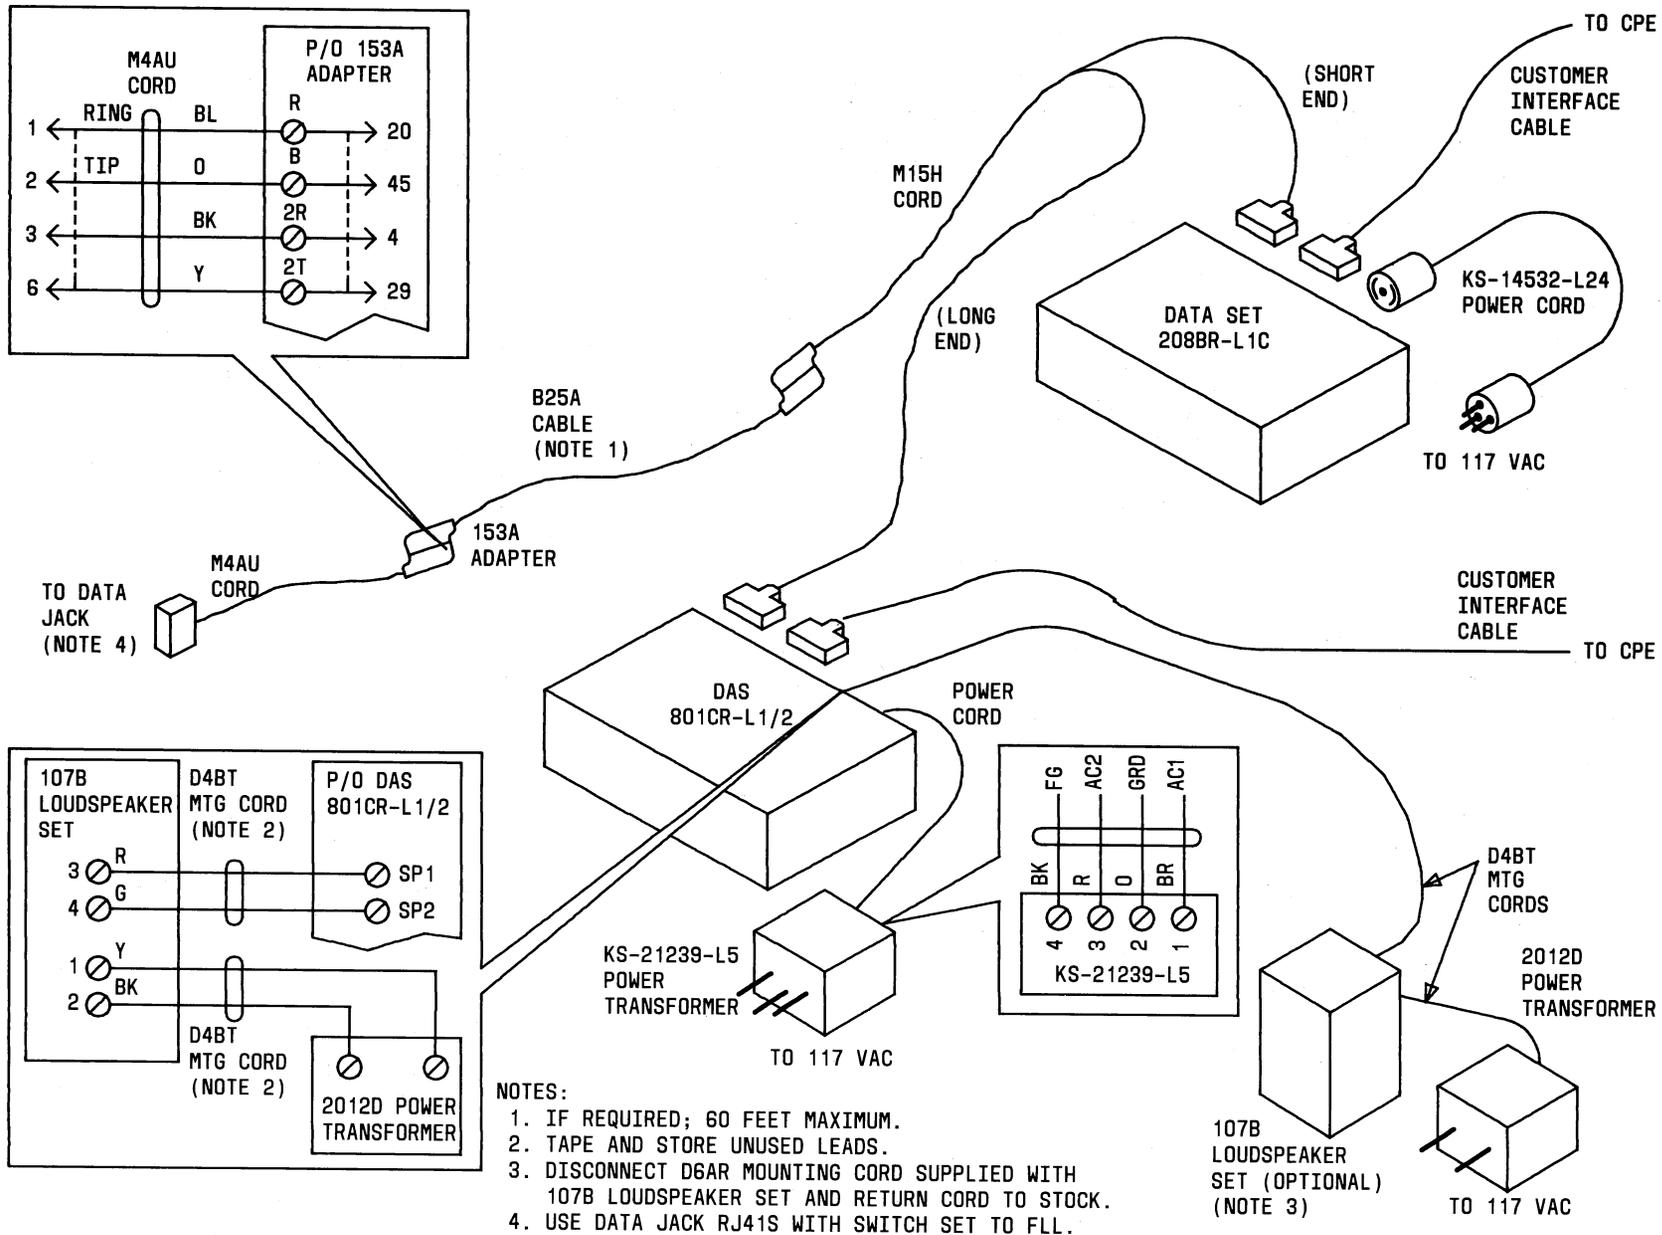

Fig. 8—Single Data Set With ACU—Connection Diagram
4.05 **Single Data Set With ACU:** The connection diagram for this arrangement is Fig. 8.